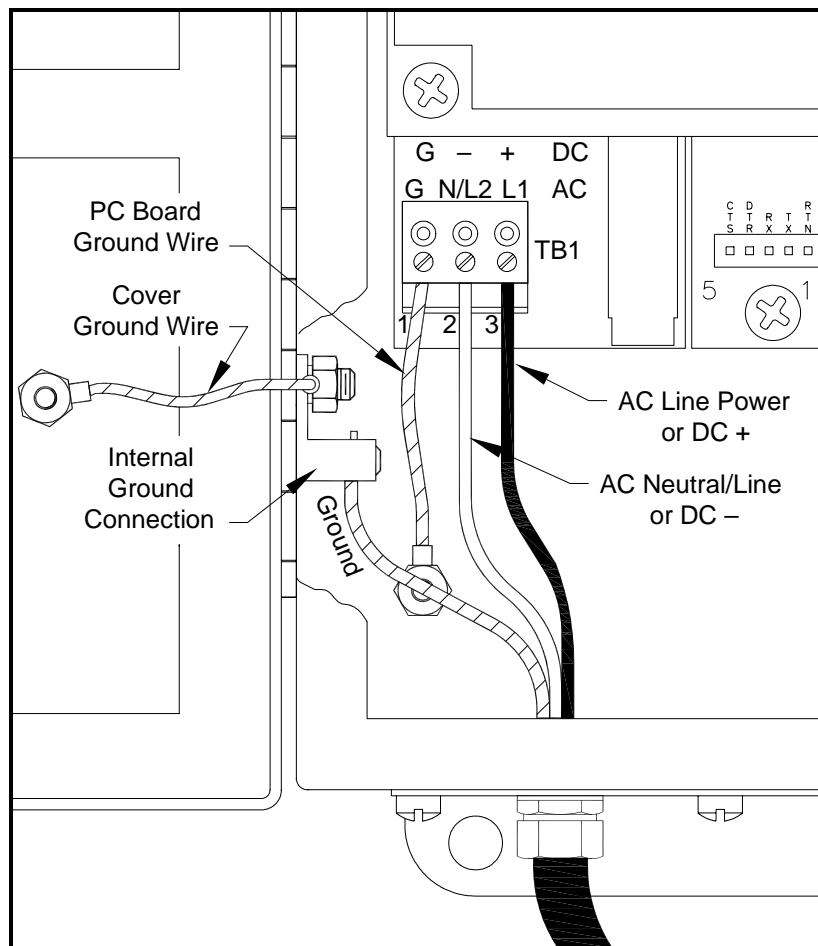

Figure 1-3: Wiring the Line Power
Refer to Figure 1-3 on page 1-8 or Figure 1-10 on page 1-20 to locate terminal block TB1 and connect the line power as follows:
3. Connect the ground lead to the internal ground connection located on the side panel of the inclosure (see Figure 1-3 below).
4. Connect the neutral or line lead (or the negative – DC power lead) to TB1-2 and the line power lead (or the positive + DC power lead) to TB1-3 as shown in Figure 1-3 below.